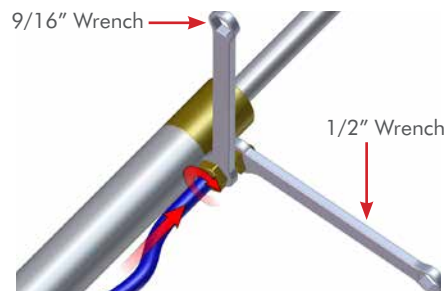

Figure 2
4. Tighten both compression fitting nuts with a 9/16" wrench while simultaneously holding their respective bases with a 1/2" wrench. **(FIG. 2)**